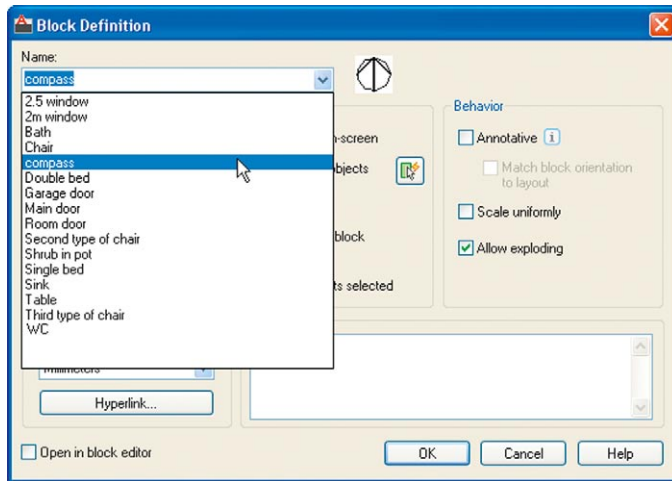

Fig. 9.4 The popup list in the **Name** field of the **Block Definition** dialog
- Repeat items 1 and 2 to make blocks of all the other symbols in the drawing.
- Open the **Block Definition** dialog again and click the arrow on the right of the **Name** field. Blocks saved in the drawing are listed (Fig. 9.4).